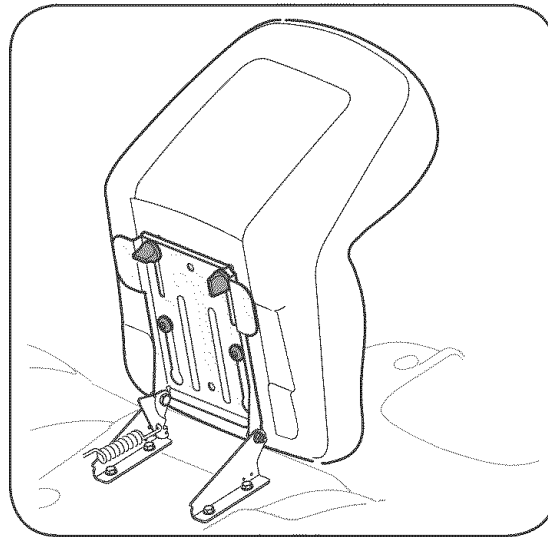

Figure 14
- Flip the seat up as shown in Figure 14.
- Loosen the two seat adjustment knobs located under the seat. See Figure 14.